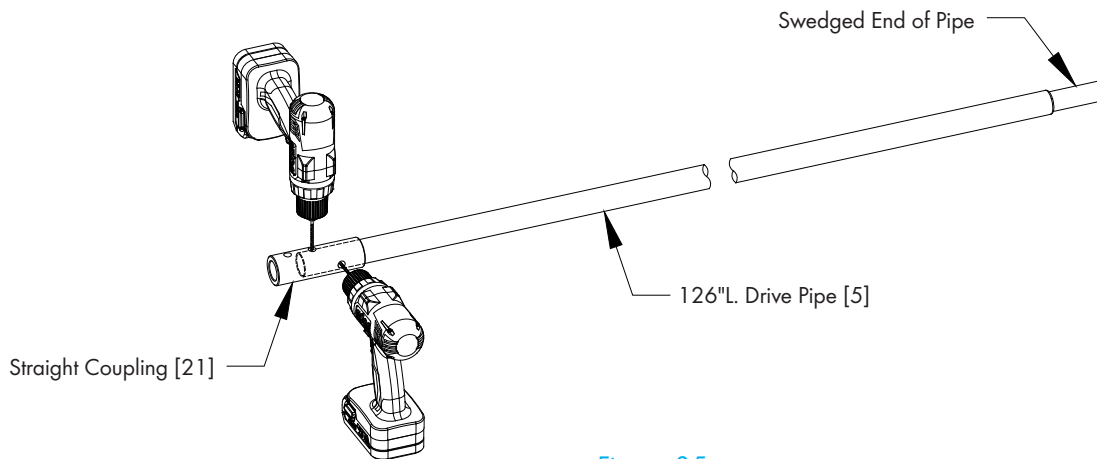

Figure 35
For the 126"L. Drive Pipe [5] that will be at the actuator end, slide the Straight Coupling [21] over the large end of the pipe so that the (2) holes are over the pipe. Then using these holes as a guide, drill (2) pilot holes through the pipe and then drill (2) $1\frac{3}{32}$ " dia. holes through the pipe. See Figure 35.